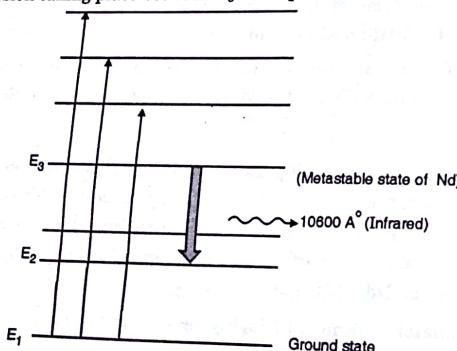

Fig. 4.12.2 : Energy levels of Nd along with YAG
- In Fig. 4.12.2 we have energy levels  $E_1$ ,  $E_2$  and  $E_3$  of Nd along with many other levels of YAG.  $E_1$  is ground state and  $E_3$  offers metastable state.